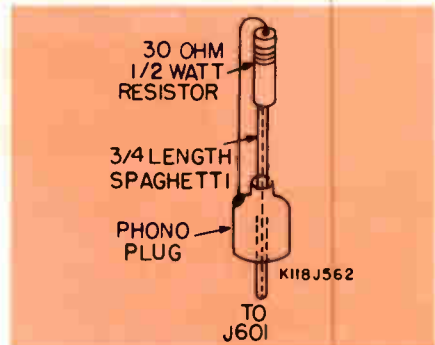

Fig. 2 Dummy antenna used when making adjustments.
6. Disconnect the remote receiver antenna and insert a dummy antenna in the r-f input jack (see Fig. 2).